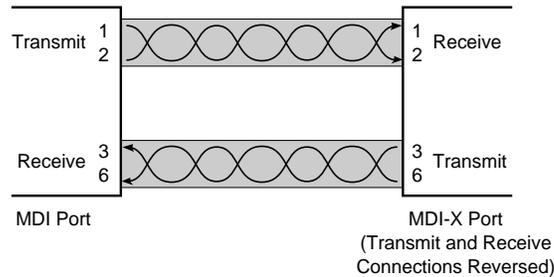

Figure A-6. Internal Crossover Function
- Internally, designed as part of the circuitry in the 10BASE-T device (see Figure A-6)